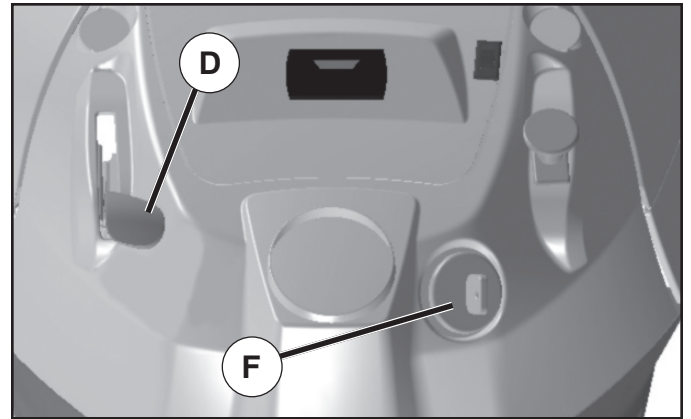

FIG. 6
- Move throttle control (D) between half and full speed (fast) position.
- Turn ignition key (F) to "STOP" position and remove key. Always remove key when leaving tractor to prevent unauthorized use.
### TO USE THROTTLE CONTROL (D) (See Fig. 6)